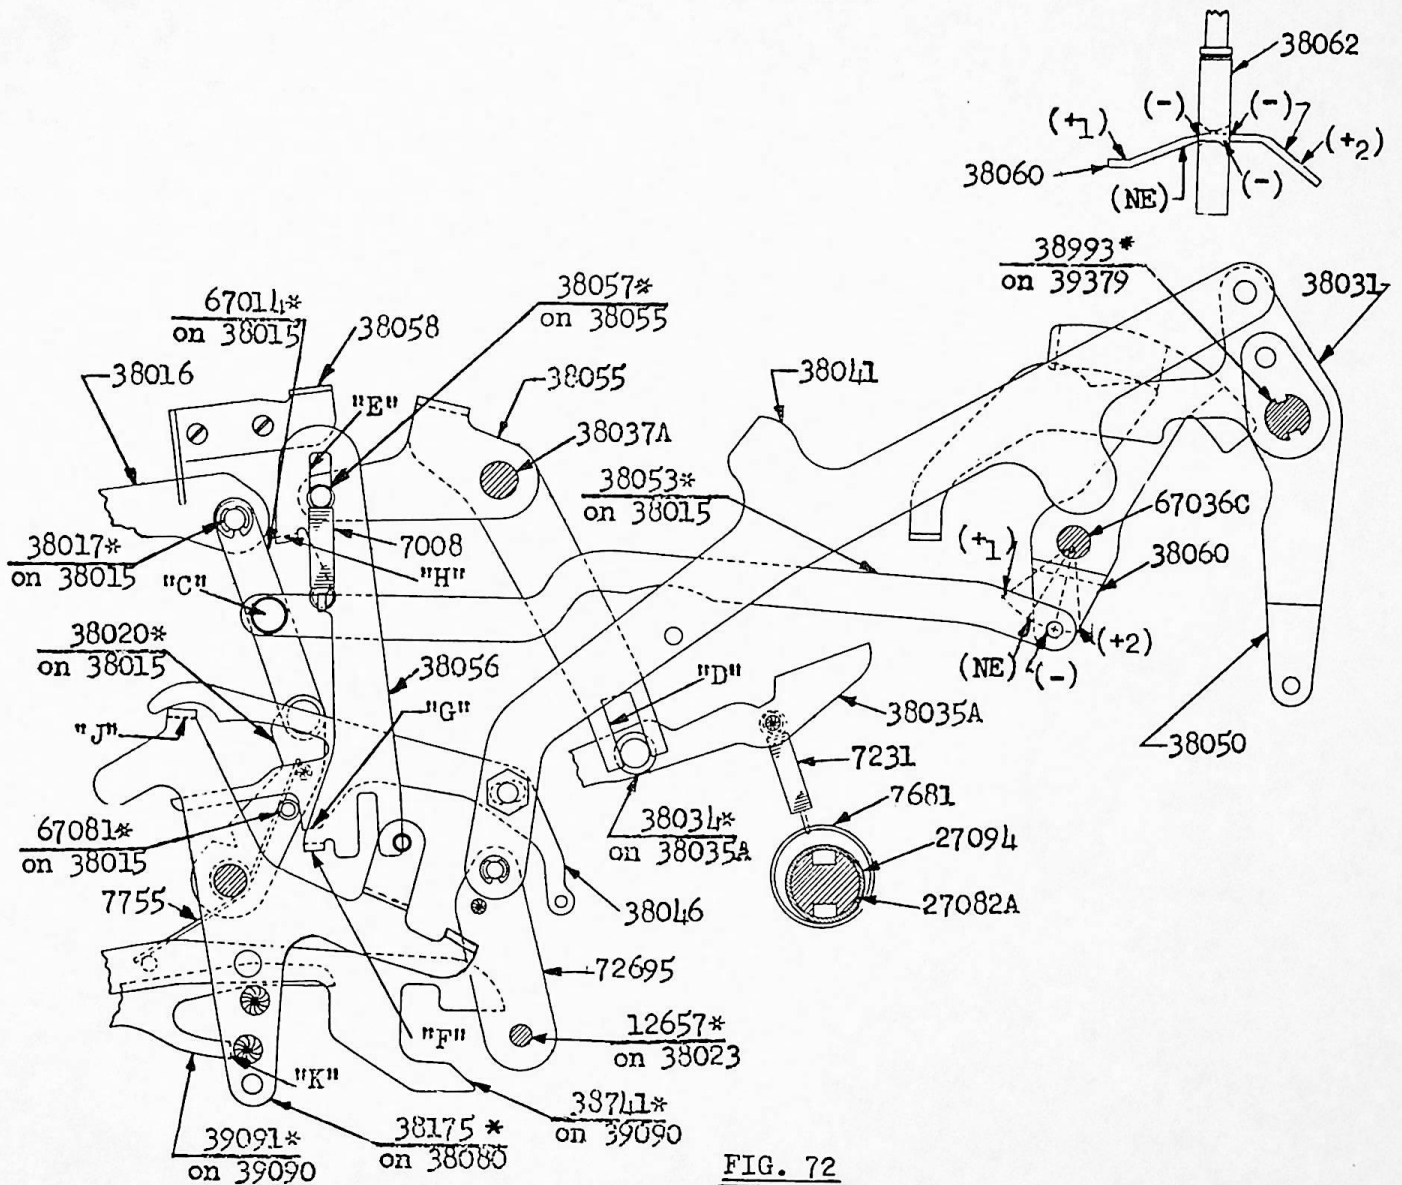

FIG. 72
1. (Fig. 72). The operation of the Register is controlled by the following three components:
1. (Fig. 72, 74). The Cam-38060 can assume six positions which correspond to the six positions of Link-67014* which in turn result from the